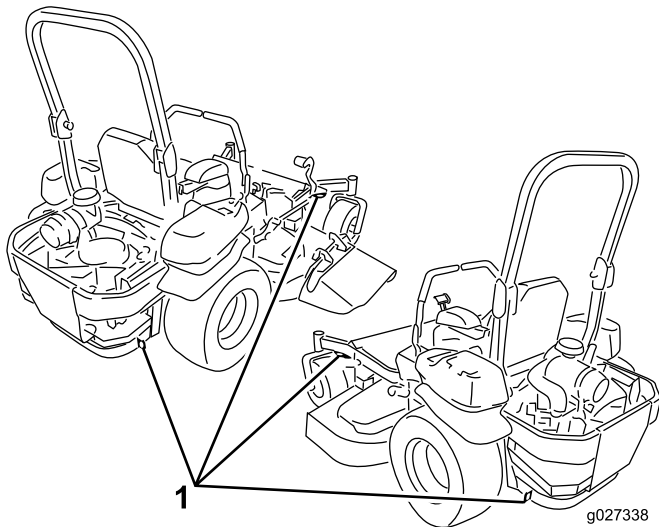

Figure 39
5. Use the metal tie-down loops on the machine to securely fasten the machine to the trailer or truck with straps, chains, cable, or ropes (Figure 39).